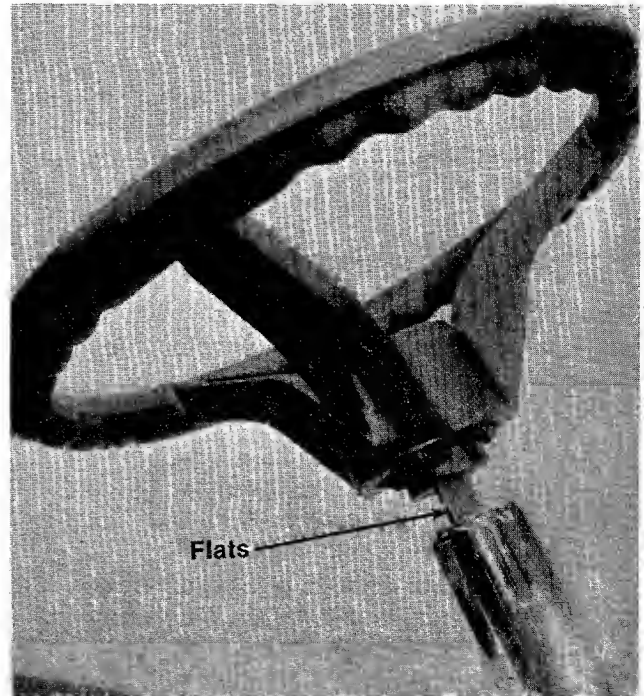

Figure 4
4. Place the steering wheel over the extension. Line up the flats on the extension with the flats on the steering wheel. (See figure 4.)